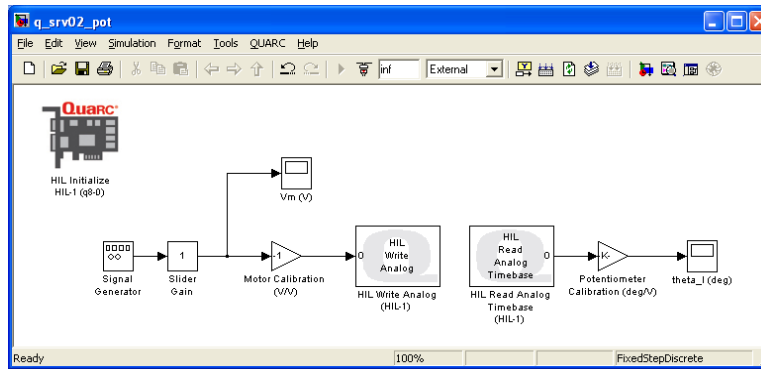

Figure A.9: Simulink[®] model used with QUARC to send voltage to the SRV02 and read its load shaft angle using potentiometer.
The Simulink® model will now be modified to read the *load angle* from the potentiometer and the voltage commanded to the motor as shown in Figure A.9.
2. Add a Scope block from the Simulink[®] | Sinks folder in the Library Browser and connect it to the output of the Slider Gain block, as shown in Figure A.9, above. Label the Scope block *V_m (V)* which stands for the input motor voltage.
4. Connect the gain blocks as illustrated in Figure A.9.
7. Open the *V_m (V)* and *theta_I (deg)* scopes.